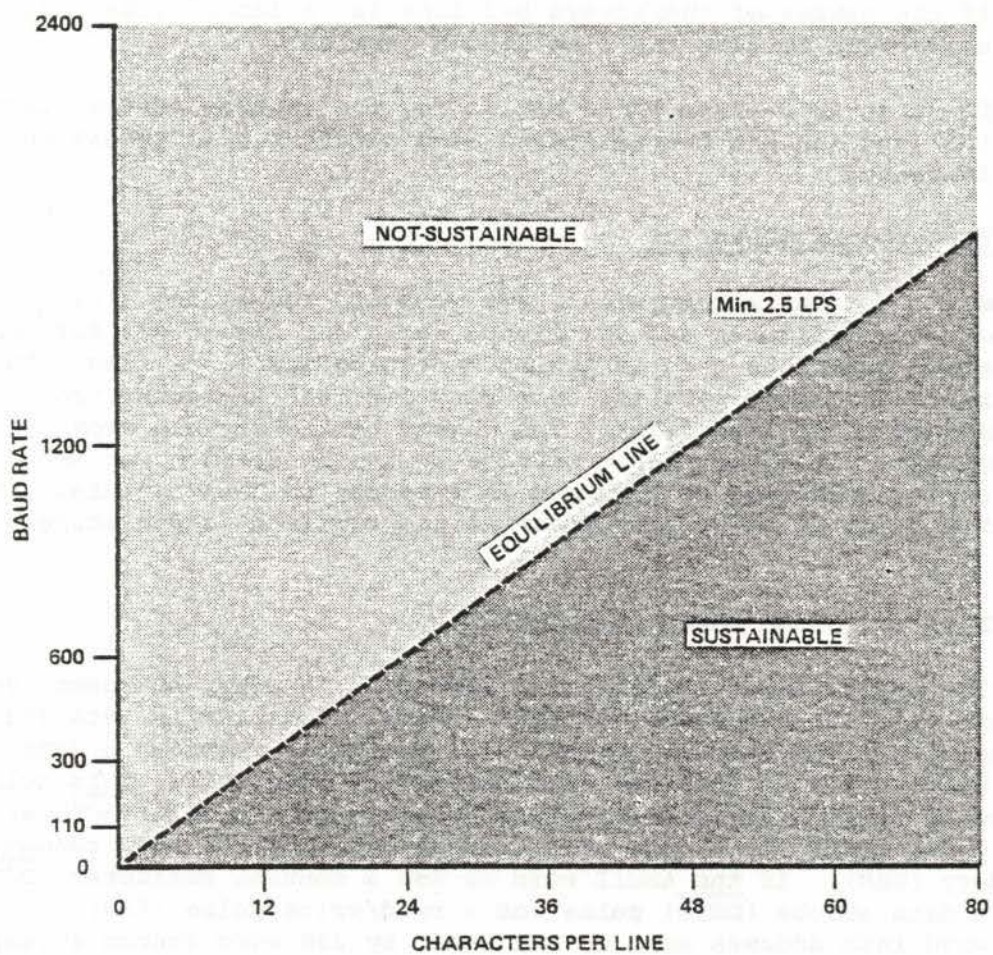

Figure 4-6. BAUD RATE VS CPL
Figure 4-6 illustrates the parameters associated with maximizing thru-put without monitoring reverse channel (SA) or adding pad characters to fill the print buffer with non-printing characters. Reduced thru-put occurs when either of two conditions exist:
- (1) CR/LF characters are received at a faster rate than the printer can accommodate. This results from very short lines or multiple LF characters which allow the line buffer to fill.
- (2) Received data characters are transmitted so slowly that the print buffer is always waiting for data. This causes pauses between printed lines with a reduction in thru-put.
As shown in Figure 4-6, in order to sustain the maximum thru-put of 2.5 lines per minute, line length must be increased as the baud rate increases. Increasing line length (characters per line) does not alter the fixed 400 milliseconds required for the print cycle. It decreases the frequency
of initiating the print cycle. This, in turn, allows more data to be transmitted at a faster rate. If short lines are received at a fairly fast rate (see Figure 4-6), the print cycle is initiated so often that the line buffer overflows. This may be avoided by decreasing the baud rate or by adding pad characters (non-printing characters, such as NULL) to increase the apparent line length so that the print cycle is entered at a slower rate.
Figure 4-6 shows that any combinations that fall along the equilibrium line result in maximum thru-put. Higher baud rates with fewer characters per line cannot be sustained. The line buffer overflows and data is lost. Conversely, low baud rates with long lines result in the print buffer waiting for characters with a corresponding reduction in thru-put.
- (1) Select a baud rate vs. character per line combination that falls along the equilibrium line on Figure 4-6.
- (2) If the number of characters per line is variable, always add pad characters to make the line length constant.
- (3) Transmit as desired while monitoring the reverse channel line (SA) and inhibit transmissions when a buffer full condition is imminent.